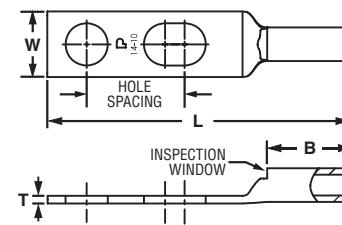

Figure 2: Slotted
*Slotted lug, refer to Figure 2.